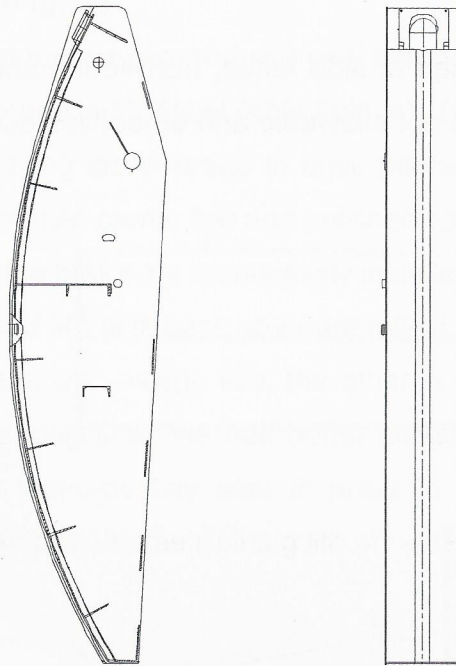

Fig.13: HorseHead Assembly Structural Sketch
3.2.11 Horsehead Assembly (Fig.13)